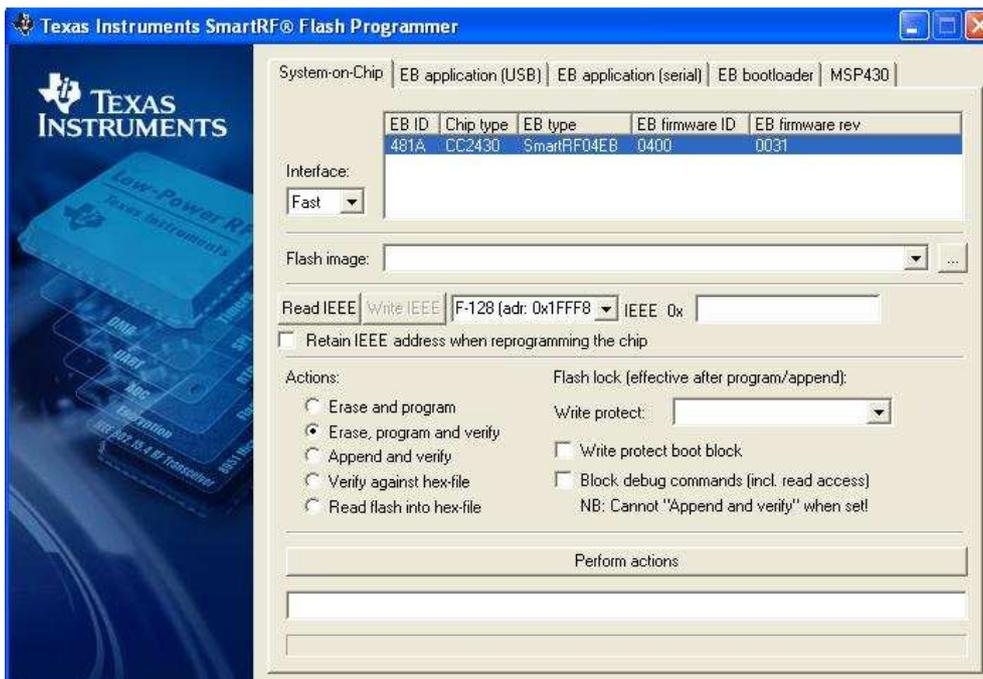

Figure 3 Flash Programmer
- Open the Texas Instruments Flash Programmer, and choose the System-on-Chip tab. The connected device is shown in the list as in Figure 3.